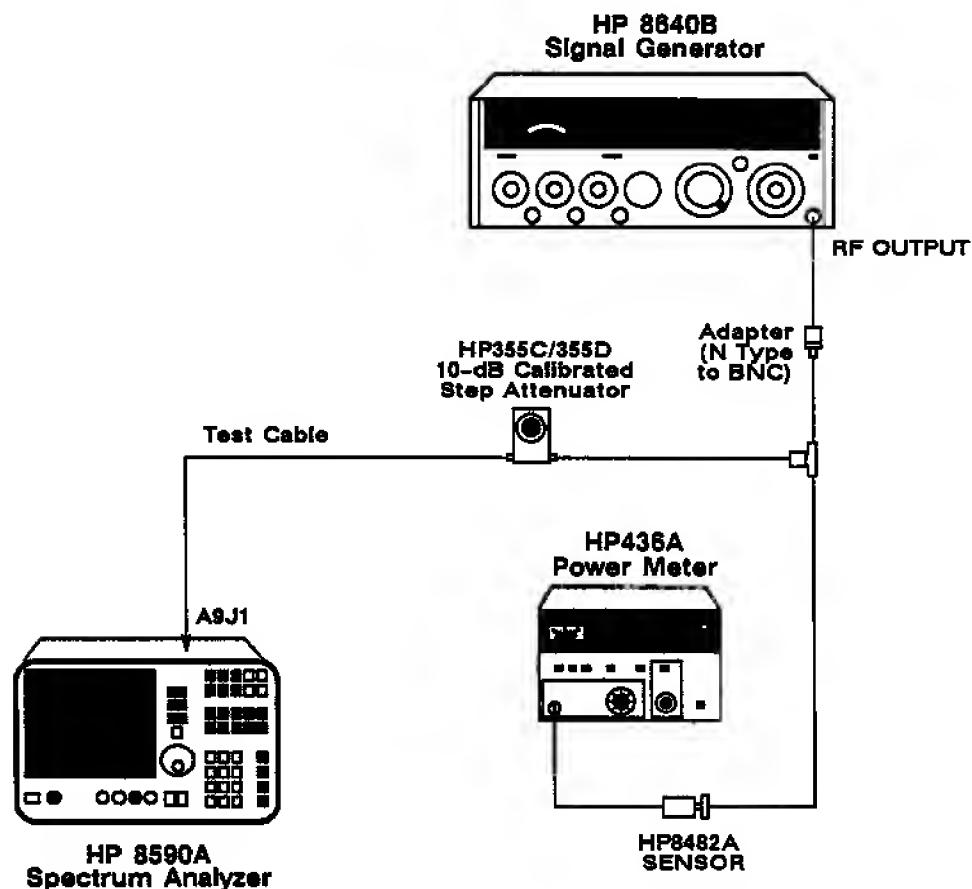

Figure 2-5. Step Amplifier Gain Adjustment Test Setup
- 2 ① Press the following analyzer keys:
- 1 ① Connect the equipment as shown in Figure 2-5. Set the signal generator to output a 321.3-MHz, -14 dBm, CW signal. Connect the signal generator to one side of a 10-dB step attenuator.